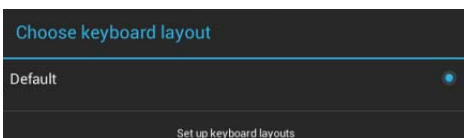

FIG. 74 Choose Keyboard Layout window
- Under *PHYSICAL KEYBOARD*, press **Generic** to open the *Choose Keyboard Layout* window (FIG. 74):